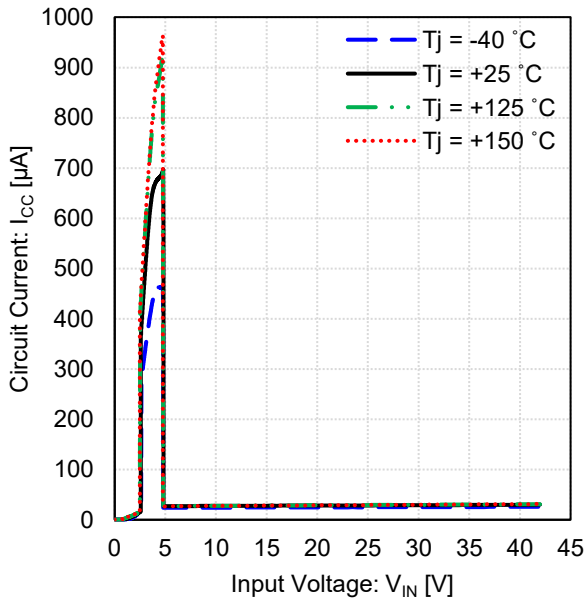

Figure 1. Circuit Current vs Input Voltage (5 V output)
*magnification of Figure 1 at narrow range circuit current (5 V output)